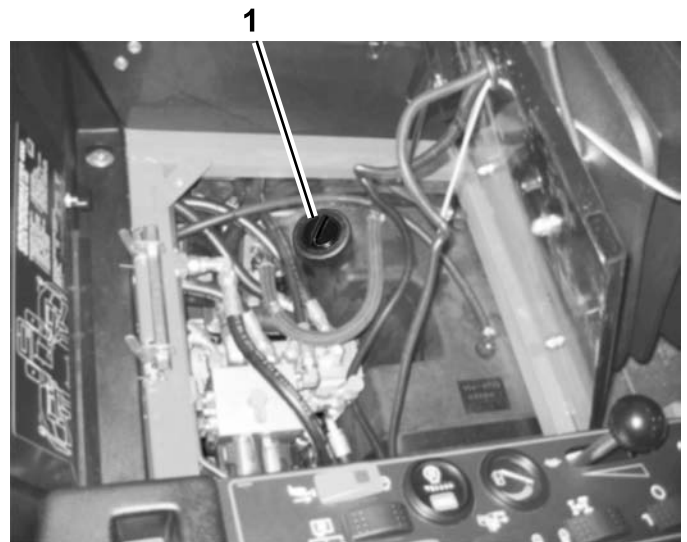

Figure 68
3. Fill the reservoir (Figure 68) with approximately 8 U.S. gallons (30 l) of hydraulic fluid; refer to Checking the Hydraulic Fluid.